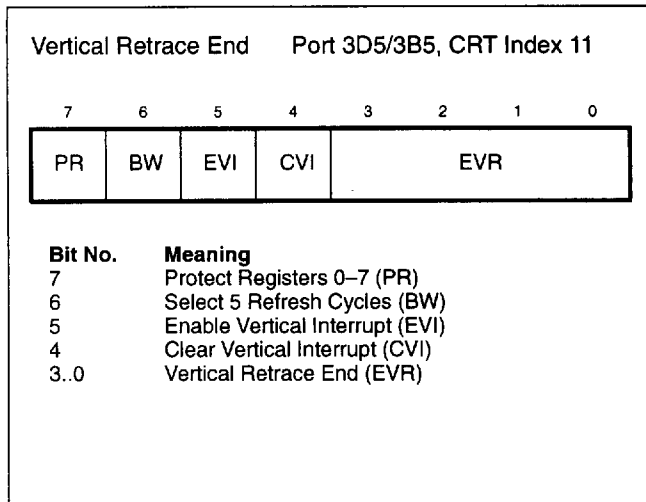

Figure 243. Vertical retrace end register format
Access to the vertical retrace start and vertical retrace end (see figure 243) registers is enabled by the end horizontal blanking register compatibility read (CR) field in the CRT controller registers group (see figure 222).